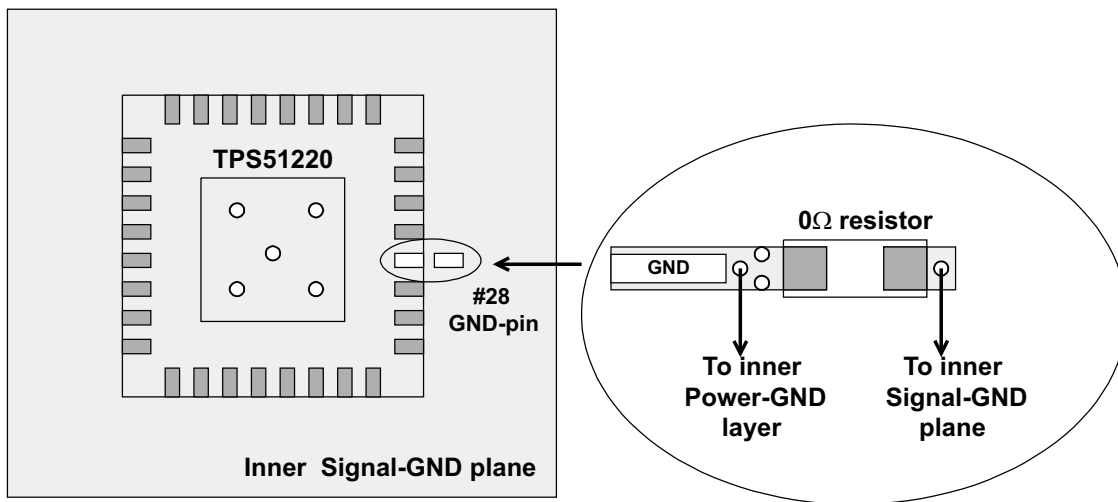

Figure 53. GND Layout Example
- Use signal GND for VREF2 and VREG3 capacitors, RF and VFB resistors, and the other sensitive analog components. Placing a signal GND plane (underneath the IC, and fully covered peripheral components) on the internal layer for shielding purpose is recommended. (See Figure 53)
- Use power GND for VREG5, VIN and Vout capacitors and low-side MOSFETs. Power GND and signal GND should be connected near the IC GND terminal. (See Figure 53)